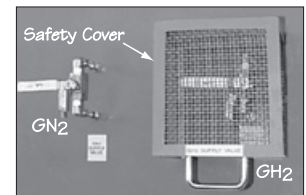

Figure 4.1-14.
4.1.9. On the east range wall, **ensure** that both the **GN2 Supply Valve** and **GH2 Supply Valve** are closed (Figure 4.1-14).
**4.1.17.4.** On the east range wall (Figures 4.1-14), **open** the **GN2 Supply Valve** for 30 seconds; then **close** the valve.